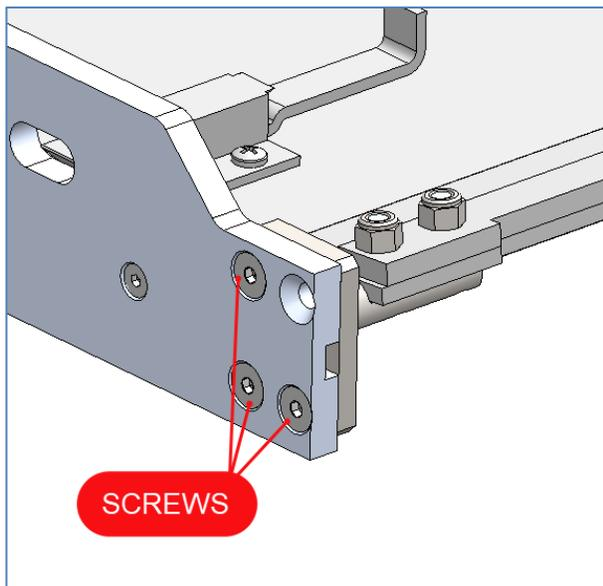
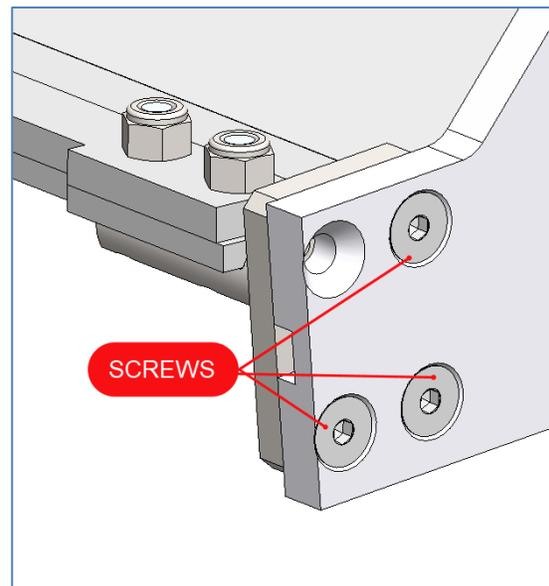

Figure 9
Figure 10
- 7) Apply LOCTITE blue to cover 2 to 3 threads on 6 out of the 8 removed screws, then use power tool with 5/32" hex drive bit or the 5/32" L-key to fasten the LOCK BLOCK with 3 screws on the left and 3 screws on the right side of the front platform. See Figure 9 & Figure 10.